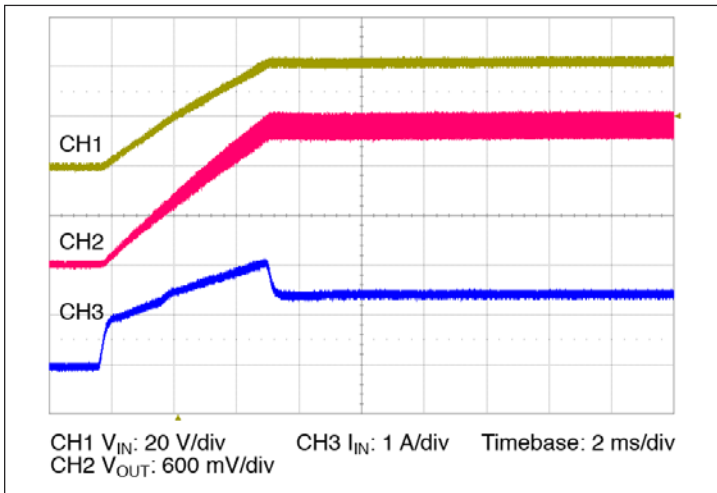

Figure 13 — Start up from application of  $V_{IN}$ ; VC pre-applied  $C_{OUT} = 0\ \mu\text{F}$
- Normal Operation (VC applied prior to VIN): In this case the controller is active prior to ramping the input. When the input voltage is applied, the VTM output voltage will track the input (See Figure 13). The inrush current is determined by the input voltage rate of rise and output capacitance. If the VC voltage is removed prior to the input reaching 26 V, the VTM module may shut down.